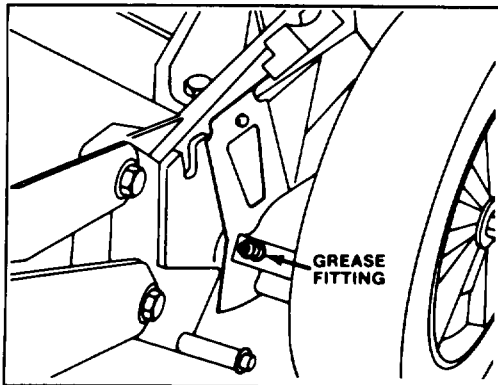

Figure 27
2. Move rear wheel height-of-cut levers to "C" setting. Wipe grease fittings with clean rag (Fig. 27). Install grease gun onto fitting and gently apply 1 or 2 pumps of #2 Multi-Purpose Lithium Base Grease.